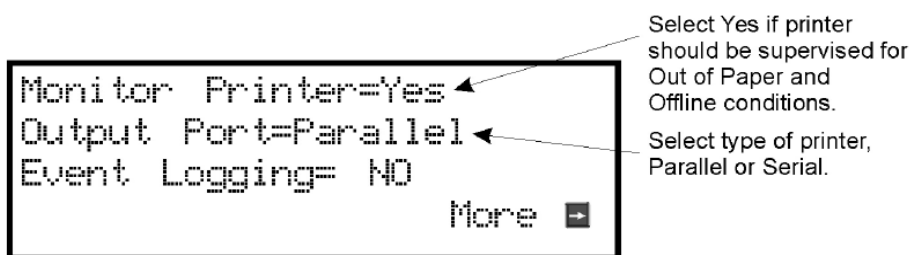

Figure 4.16 Selecting Printer and Output Port Options
5. Press <Enter> to bypass the next two screens. A screen similar to the one shown in Figure 4.16 will display.